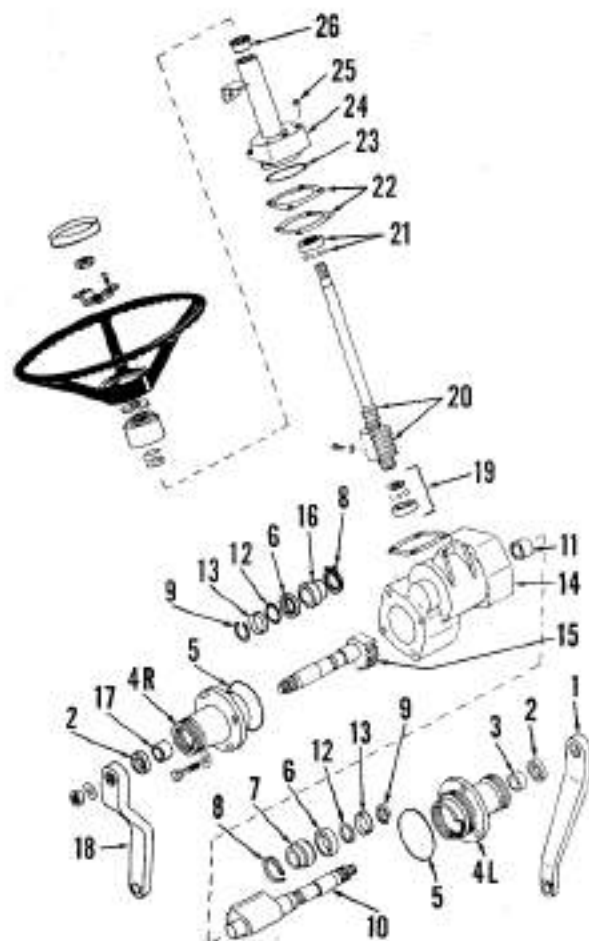
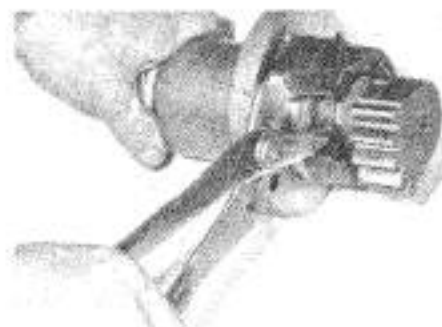
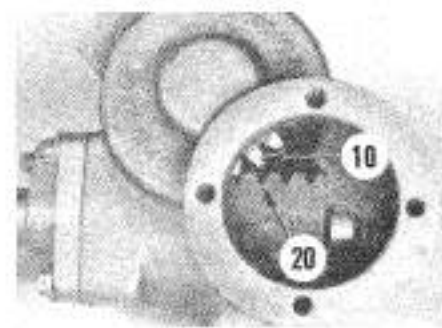
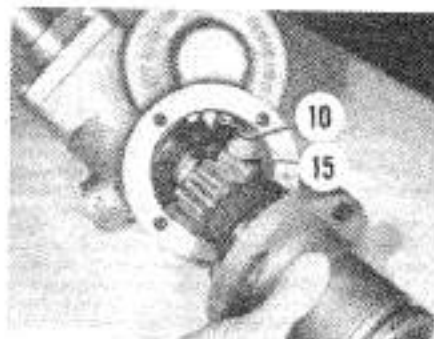

Fig. 6—Exploded view of typical manual steering gear used on MF230 and some MF235 models.
Fig. 7—The snap ring must be removed as shown before pitman shaft can be removed from housing.
Fig. 8—The marked (3rd) tooth of the left pinion gear (10) should be aligned with the center valley of rack (20).
Fig. 9—Install the right pinion with first tooth (15) aligned with first valley (10) on the other pinion.
filled to the level of the opening for plug (25—Fig. 6) with SAE 90 gear lubricant.
5. OVERHAUL. To overhaul the removed unit, first remove the right pinion housing (4R—Fig. 6) and shaft (15), then remove the left pinion housing (4L) and shaft (10). Unbolt shaft housing (24) and withdraw housing and shaft (20). Eleven loose balls should fall from upper bearing (21) and eleven from lower bearing (19). Pitman shafts (10 and 15) and related parts can be withdrawn from housing (4L or 4R) after snap ring (8) is removed as shown in Fig. 7. Parts of the ball nut and shaft (20—Fig. 6) are not available separately and should not be disassembled.
After steering shaft ball nut is installed, turn the steering shaft until the ball nut is at bottom. Position the steering gear as normally installed on the tractor, and install the left pitman shaft (10) and housing (4L) assembly. The flat identification boss on left housing (4L) should be down when installed. The marked (3rd) tooth on left pinion (10) should be aligned with center valley of ball nut rack (20) as shown in Fig. 8. Turn the steering shaft until ball nut is moved to top and install the right pitman shaft (15—Fig. 6) and housing (4R) assembly. The first tooth on right pinion (15) should be aligned with the first valley on left pinion (10) as shown in Fig. 9. The flat identification boss on right housing (4R—Fig. 6) should be toward front when installed correctly.